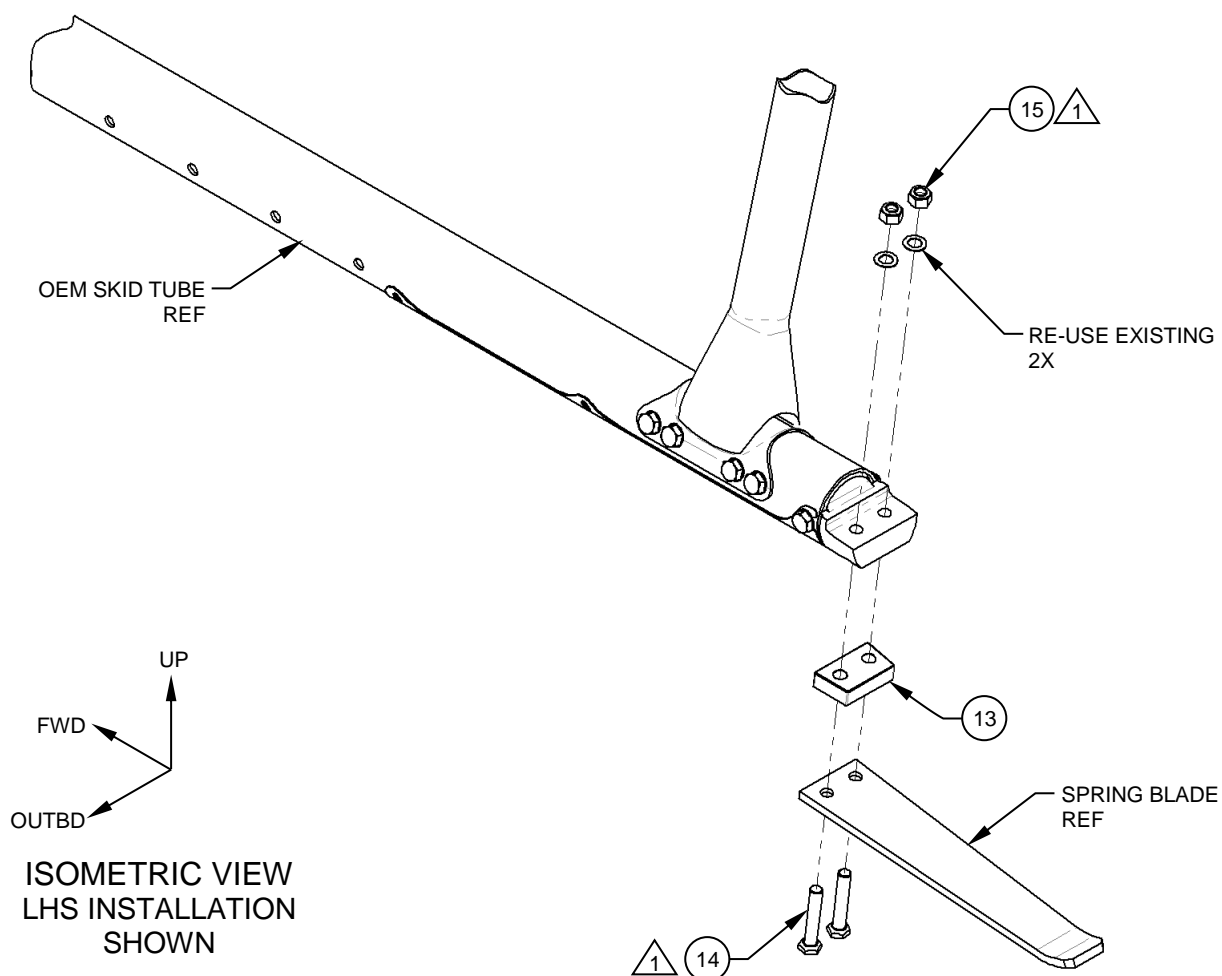

Figure 3
2. Raise the aircraft and remove the spring blade and associated fasteners. Install the Spacer, Detail (Item 13) between the spring blade and its associated fitting using the provided Bolt, Details (Item 14) and the associated nuts (Item 15). Re-use the existing washers. Reference Figure 3.